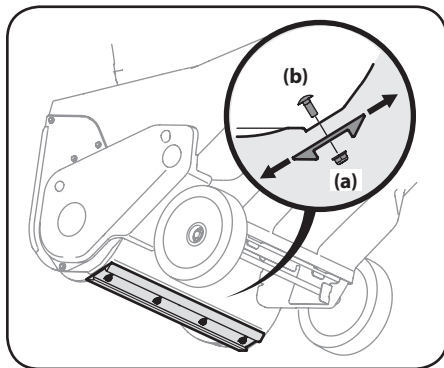

Figure 4-2
3. Loosen the four flange lock nuts (a) and carriage screws (b) which secure the shave plate to the housing. See Figure 4-2. Move the shave plate to the desired position and retighten the flange lock nuts (a) and carriage screws (b) securely.